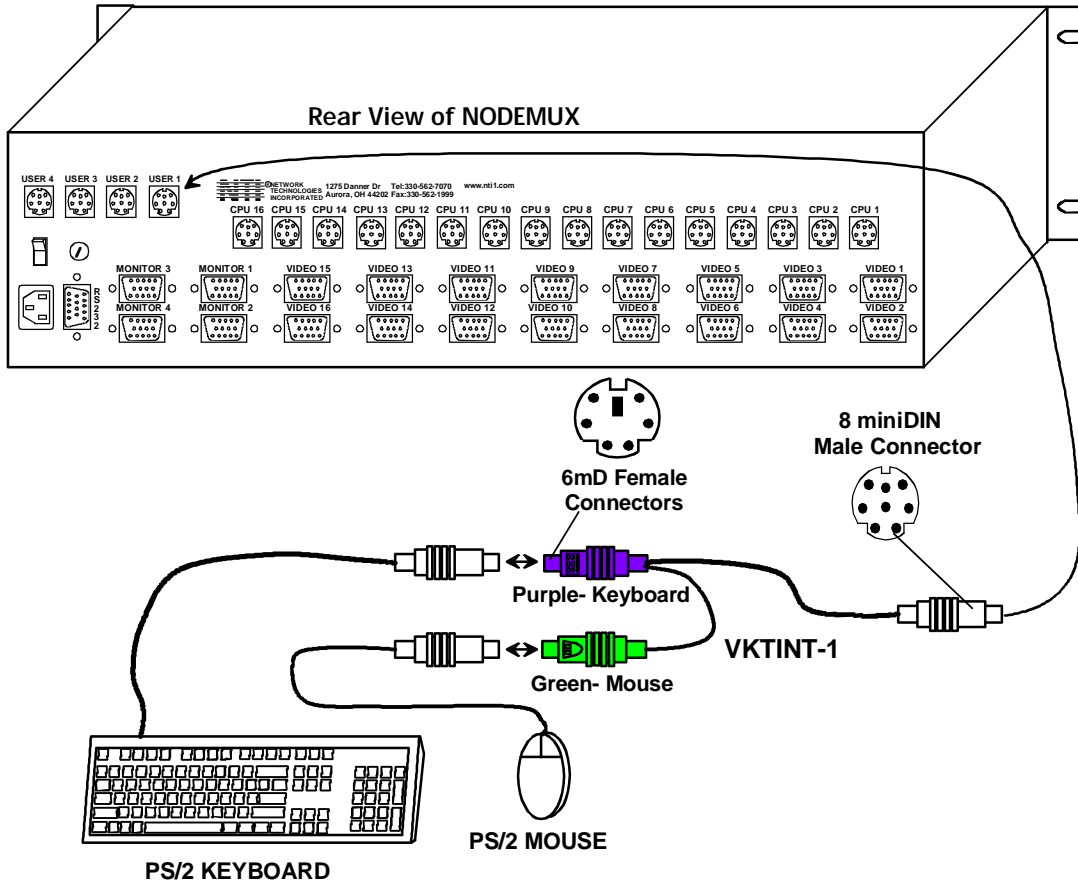

Figure 3- Connect PS/2 devices to NODEMUX
- Connect the keyboards to the ports labeled "USER x" on the rear of the NTI Switch. (See Figure 3) Use the proper interface cables. (See also Cable Selection Guide on page 10.) Insure that the monitors and related keyboards have the same port numbers.